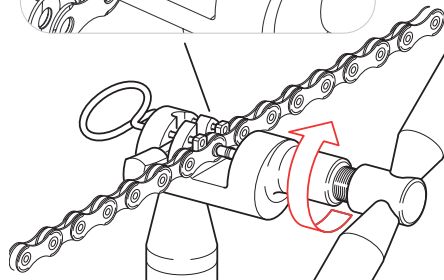

Fig.21
- Screw in the tool to bring the pusher into contact with the protruding end of the **ULTRA-LINK 5-CN-RE500 (11s) / 5-CN-SR600 (12s)** bush, turning it by about 3/4 of a turn and exerting moderate force till distorted (Fig. 21).